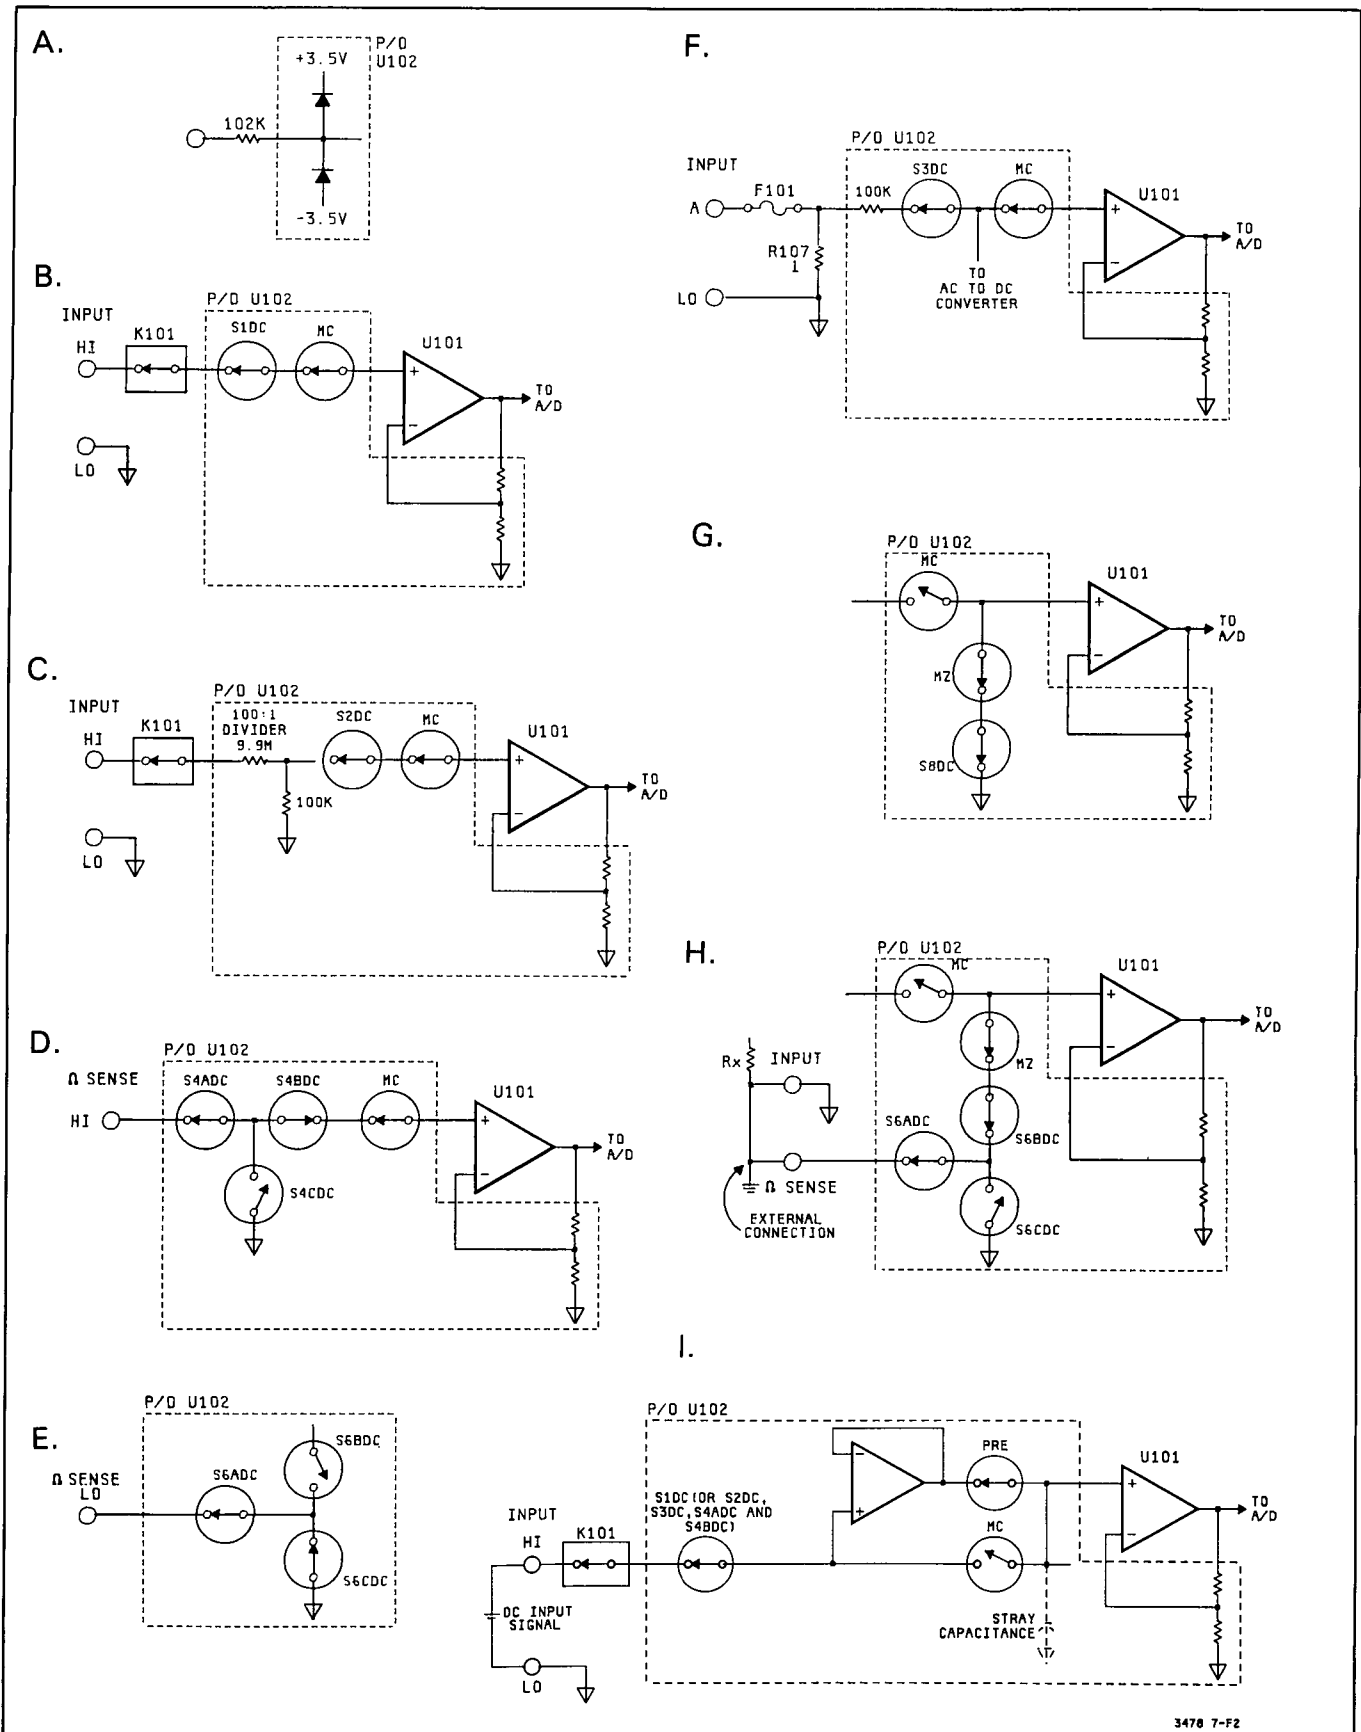

Figure 7-F-2. Simplified Schematic Of The Input Switching Circuitry
b. **Low Voltage Protection.** This circuit consists of diodes connected to the individual input nodes (part of the HI INPUT, LO INPUT, A INPUT Paths, etc.). The diodes on each node are connected (internally in U102) to +3.5V and -3.5V power supplies. If the voltage on a node exceeds either +4.2V or -4.2V, a diode conducts and keeps the level on the node to the  $\pm 4.2V$  levels. The difference between the high voltage at the input terminals and the voltage at the input nodes is dropped across the resistors which are in series with the diodes and input terminals (the low pass filter). Figure 7-F-2A shows a typical protection circuit.
**7-F-13. Input Switching.** The Input Switching Circuitry consists mostly of Relay and MOSFET switches, with most FET switches located in U102. The purposes of the switches are to provide five signal paths to the Input Amplifier and to connect the amplifier for a zero measurement (done in the Autozero Function; see paragraph 7-F-14). The switches are controlled by circuits in U102 which receive their control information from the A/D Controller. The following explains the various input paths. Refer to Figure 7-F-2 and Schematic 1 for the explanation.
a. **Low Voltage Range Input Path (Figure 7-F-2B).** The path consists of K101, R103, R104, R110, and S1DC (S1DC is in U102). The purpose of the path is to connect the HI INPUT Terminal (high input voltage) to the DC/Ohms Input Amplifier. The path is used only in the 30mV through 3V dc volts Ranges and all Ohms Ranges.
b. **High Voltage Range Input Path (Figure 7-F-2C).** The path consists of R110, K102, S2DC (in U102), and a 100:1 divider (9.9M ohm and 100K ohm resistors, RD99 and RD98, in U102). The purpose of the path is to attenuate input voltages by a factor of 100 and to connect the attenuated voltage to the DC/Ohms Input Amplifier. The path is used only in the 30V and 300V dc volts Ranges.
c. **Ohms High Sense Path (Figure 7-F-2D).** This path consists of R105, R106, and S4ADC and S4BDC (S4ADC and S4BDC are in U102). The path connects the HI OHMS SENSE Terminal (high ohms input) to the DC/Ohms Input Amplifier, only when the 3478A is in the 4-Wire Ohms Function. Switch S4CDC (which is also part of the path) is used to connect the junction of S4ADC and S4BDC to ground. Switch S4CDC is closed in all functions except the 4-Wire Ohms Function and shunts any possible voltage on the S4ADC and S4BDC junction to ground.
d. **Ohms Low Sense Path (Figure 7-F-2E).** This path consists of R101, R102, and S6ADC and S6CDC (S6ADC and S6CDC are in U102). The path is used to connect the LO OHMS SENSE Input Terminal (low ohms input) to ground (LO INPUT Terminal), when the 3478A is in the 4-Wire Ohms Function. In the 2-Wire Ohms Function, the low ohms input is the LO INPUT Terminal (which is connected to ground).
e. **Current Input Path (Figure 7-F-2F).** This path includes R107 and S3DC (in U102). The voltage drop across R107 (which is generated by the current being measured) is connected through S3DC to the DC/Ohms Input Amplifier. This path is used only in the DC Current Function.
a. **Autozero (in the DC Volts, DC Current, and 2-Wire Ohms Functions).** In the DC Volts, DC Current, and 2-Wire Ohms Functions, the zero measurement is made with switch MC (measure customer) open, and switch MZ (measure zero) and S8DC closed (see Figure 7-F-2G). Switch S8DC and MZ connects the DC/Ohms Input Amplifier to ground through a 102K ohm resistor. After the zero measurement is made, switch S8DC and MZ opens, and switch MC closes for the input measurement. (Note: MOSFET switches MC, MZ, and S8DC are in U102.)